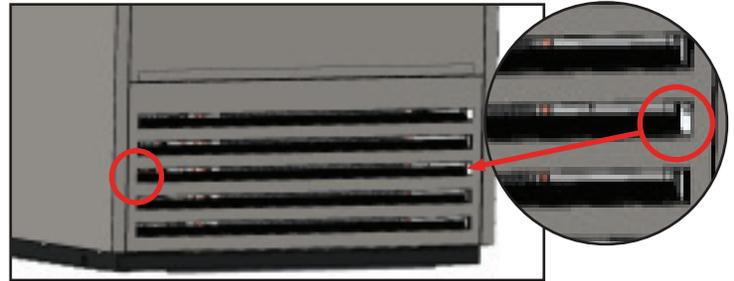

Fig. 1. Remove the screw securing the front grill.
2. Remove the screw securing the louvered grill to the cabinet. See fig. 1.